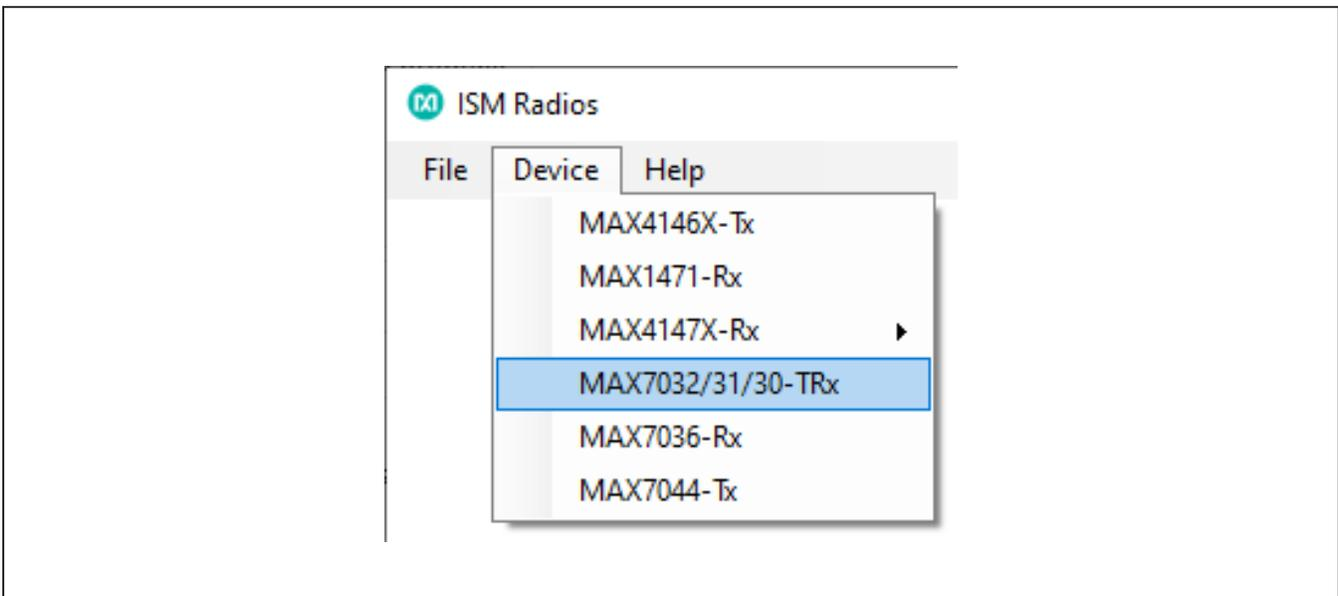
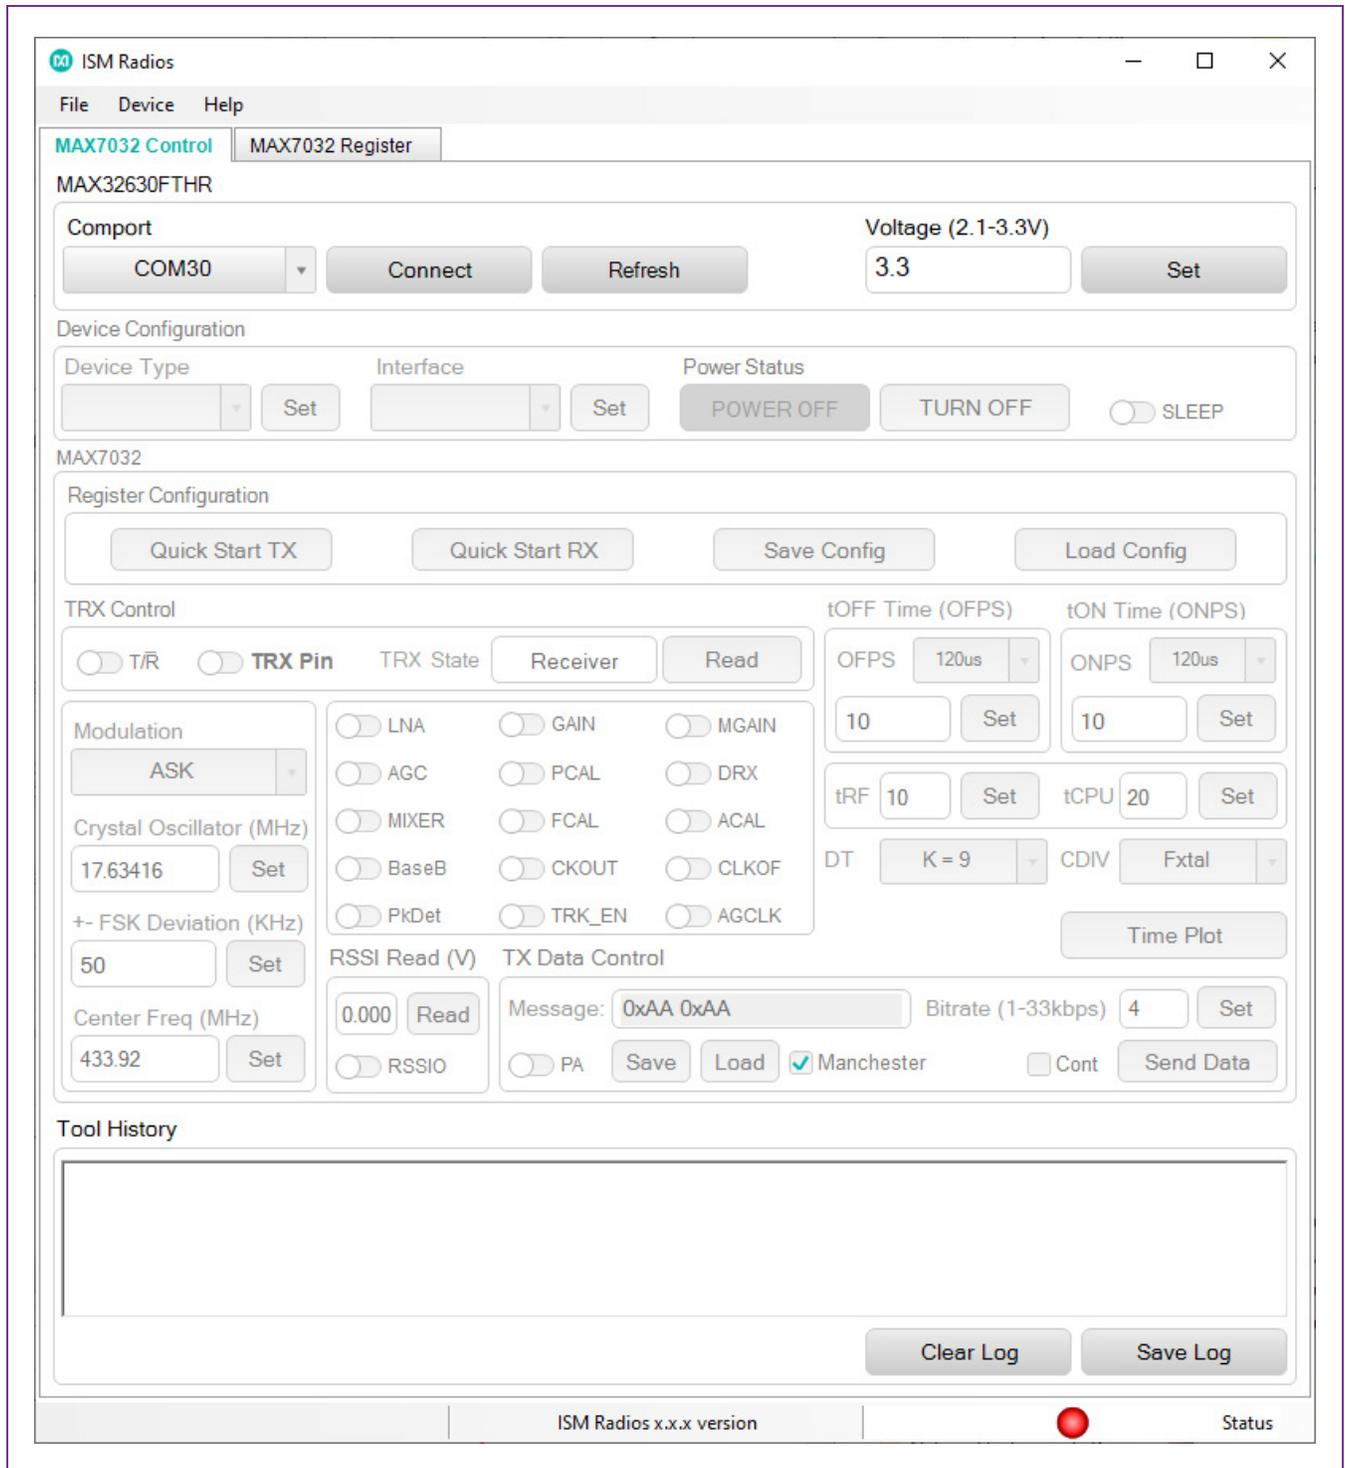

Figure 5. ISM Radios GUI Device Selection
Figure 6. ISM Radios GUI Software Startup
- 7) Under the **Device** menu option pulldown, select MAX7032/31/30-TRx (Figure 5). The GUI tabs populate in the window, as shown in Figure 6.